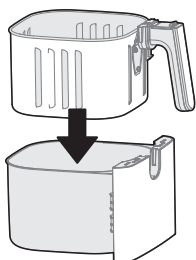

Fig. 3
2. Put the frying basket into the frying barrel and fasten it in place (Fig. 3), and then push it into the main machine (Fig. 4).